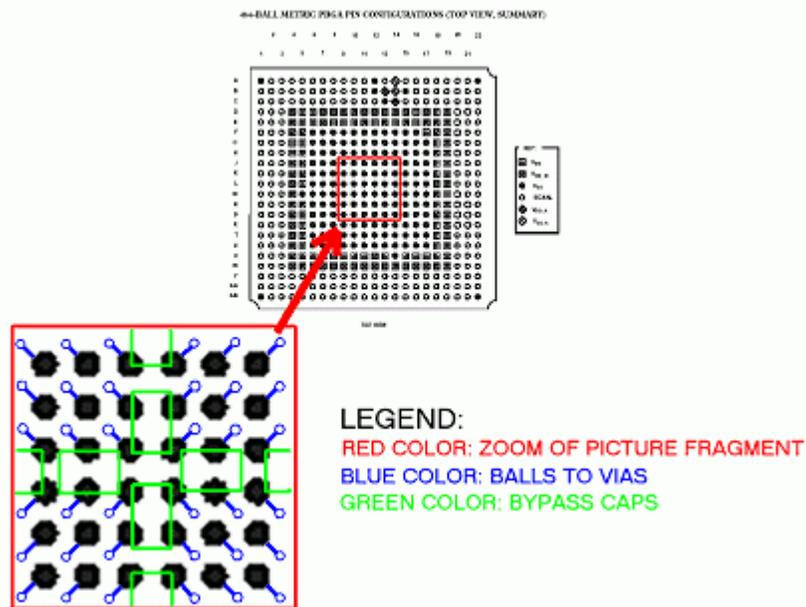

Figure 5. Bypass capacitors layout scheme
- Part the traces in the four quadrants of the chip in four opposite directions, as shown in Figure 5. Use the two resulting open horizontal and vertical lanes for placing SMD capacitors of size 0402 or smaller. The disadvantage is that small capacitor packages may be difficult to handle.